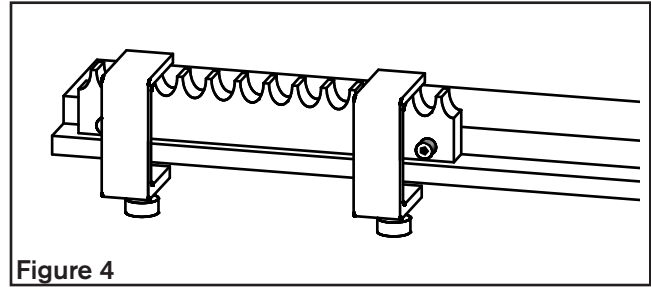

Figure 4
2. Using customer supplied mounting bolts, loosely secure the first rack length to the mounting surface and carefully fix in place while protecting the rack teeth by distributing the clamp load over as many teeth as possible. Socket head cap screws are recommended for maximum pinion shoulder clearance. (Figure 4)